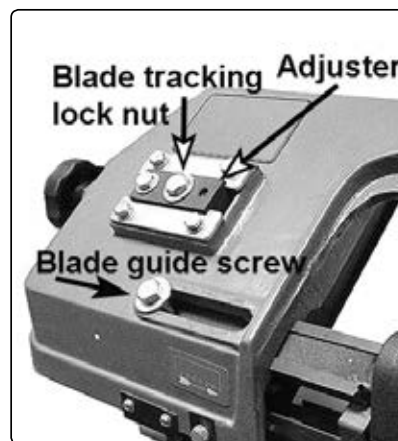

fig.22
- 7.2.4. Remove the lower blade guard (69) and loosen the lowest screw on the upper blade guide and slide the guide away from the blade to the end of its slotted mounting hole, see fig.17 and fig.22.
- 7.3.4. If inspection indicates that adjustment is required reduce blade tension (see para. 7.2.3.) and loosen the blade tracking lock nut as seen in fig.22.